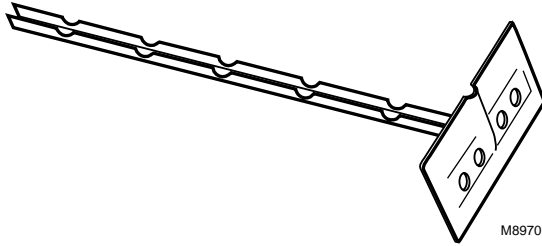

Fig. 12. Bulb support.
2. Using the holder as a template, mark and drill holes for the bulb holder mounting screws. See Fig. 12.